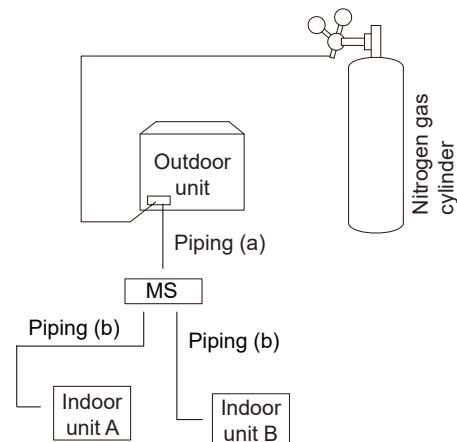

Fig. 5-16
- b) Braze the refrigerant piping and branch joints between outdoor unit(s) and MS box (piping (a) in Fig. 5-16), but not connect piping (a) to MS box.
- d) Braze the refrigerant piping and branch joints between MS and indoor units (piping (b) in Figure 5.16), but not connect piping (b) to MS box.